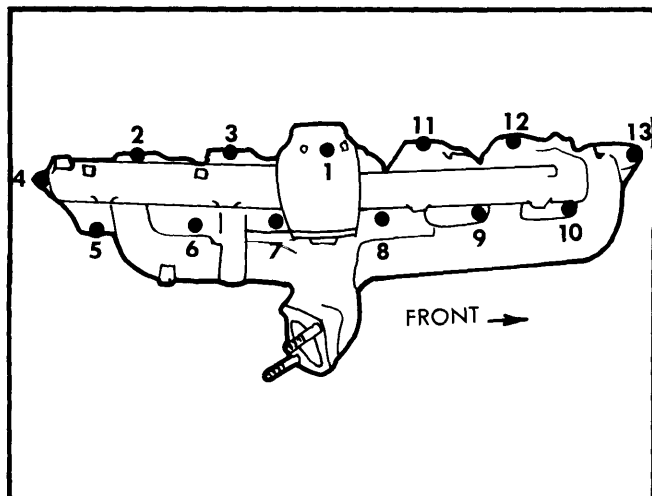

Fig. 1 Intake & Exhaust Manifold Tightening Sequence
3) Coat mating surfaces lightly with graphite grease, place manifold assemblies in position against cylinder head. Make sure gaskets have not become dislodged. Install attaching washers, bolts, and nuts. Torque bolts and nuts to specifications using sequence shown in Fig. 1. If intake and exhaust manifolds were separated, tighten nuts joining both parts.